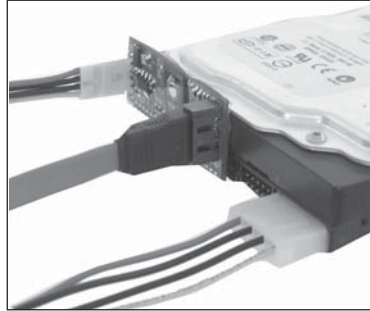

Figure 8
8. Connect the "Y" split power connector to power the Ultra ATA/ATAPI device, refer to **Figure 8**.